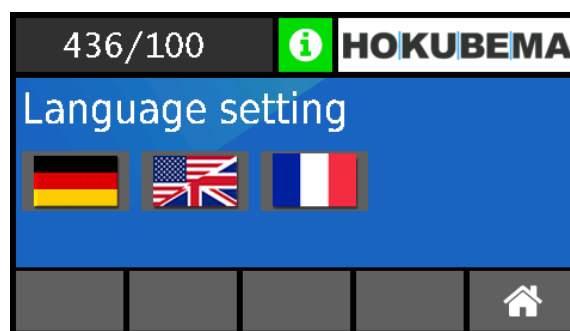

Figure 27: Language menu
- Tapping the flag symbol at the bottom left opens the language menu (see ⇒ Figure 27). The desired menu language can be chosen here.